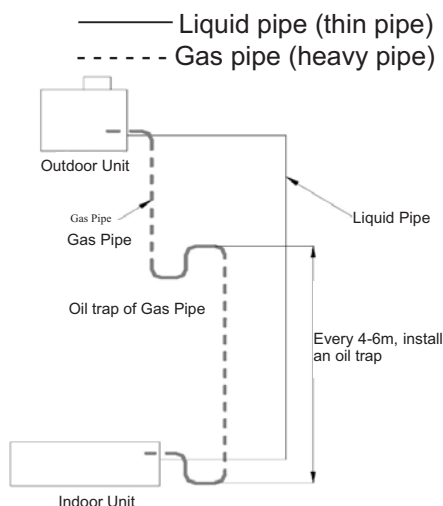

Figure 3-2-1
- ◆ When the difference in height between indoor and outdoor units is different, please refer to Figure 3-2-1 for layout of pipeline.